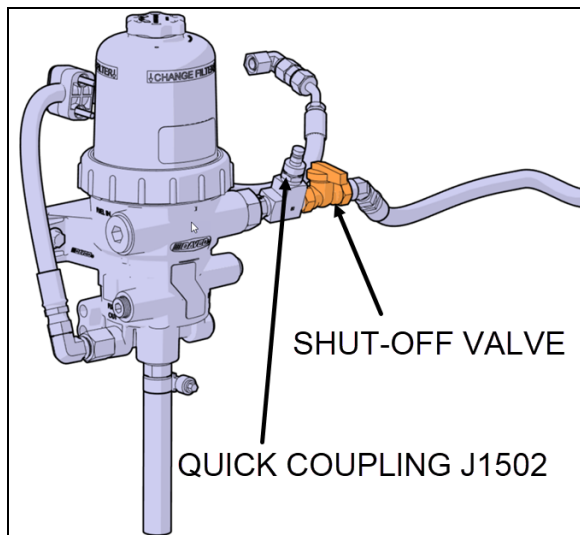

FIGURE 7: DAVCO FUEL PRO 386 WITH MANUAL SHUT-OFF VALVE
The Fuel Pro 386 (Figure 7) fuel processor is installed between the fuel tank and the secondary fuel filter and is used as the primary fuel filter. This system also serves as a water separator and is equipped with heating for winter conditions. *Davco Technical Manual F1387* is available on Prevost Technical Publications site.
2. Close the shut-off valve on the “fuel in” side of the fuel filter (FIGURE 7).
3. Remove the vent cap & vent cap O-ring (A).
4. Open the drain valve (I) a minimum of 3 turns and drain the fuel completely from the unit.
6. Untighten the collar (E), remove clear cover with filter spring (D), filter element and cover O-ring (B).